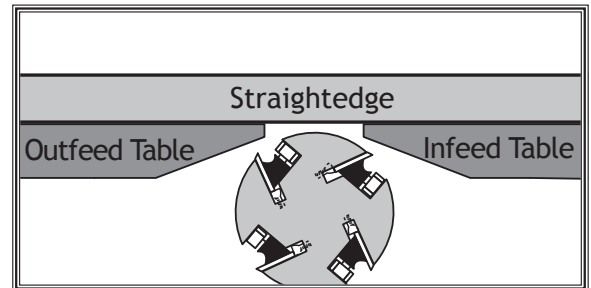

Figure 46. Infeed and outfeed tables set evenly (knife-style cutterhead shown).
7. Place straightedge halfway across infeed and outfeed tables, and adjust infeed table even with outfeed table, as shown in **Figure 46**.